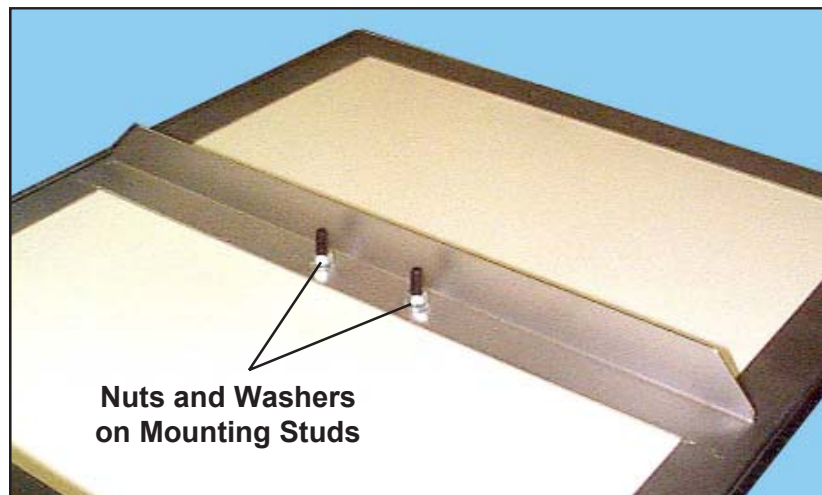

Figure 3. Nuts and Washers to be Removed
1. On the underside of the table, with a 1/2-in. wrench, remove the two nuts and washers from the diagonal support mounting studs (Figure 3).